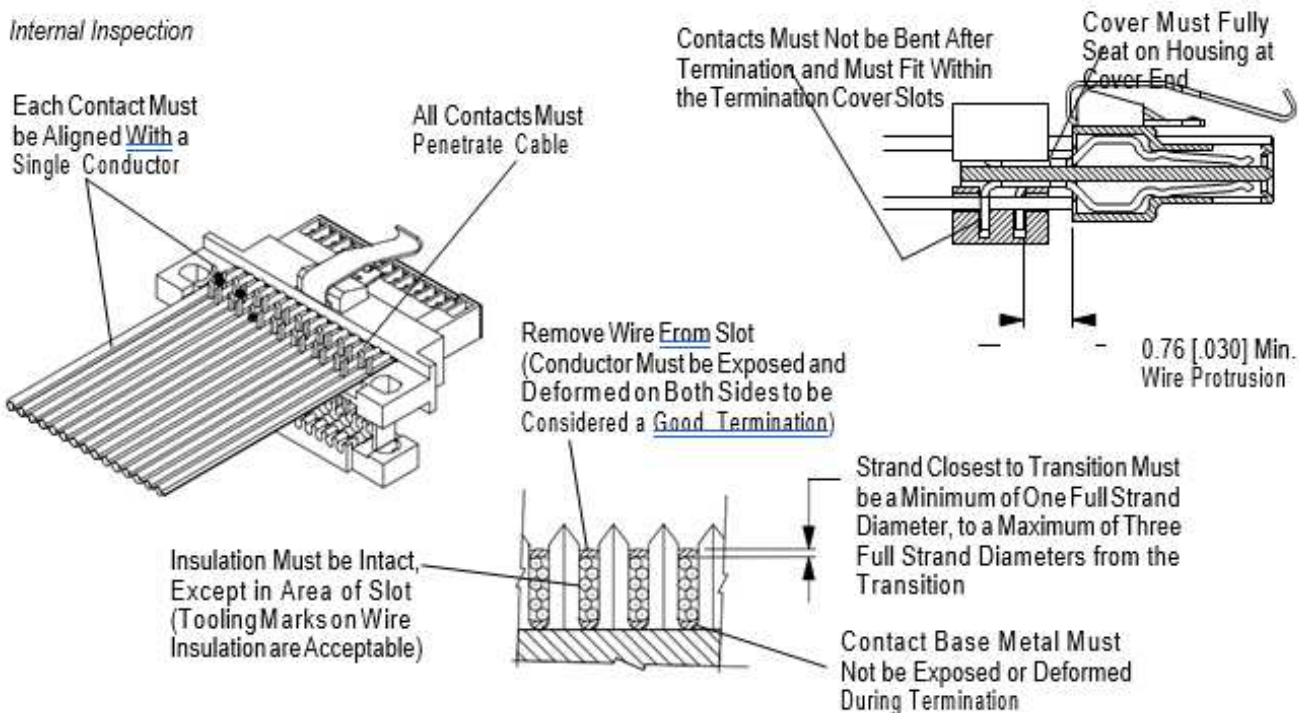

Figure 19
**B. Internal Inspection** (Figure 19)